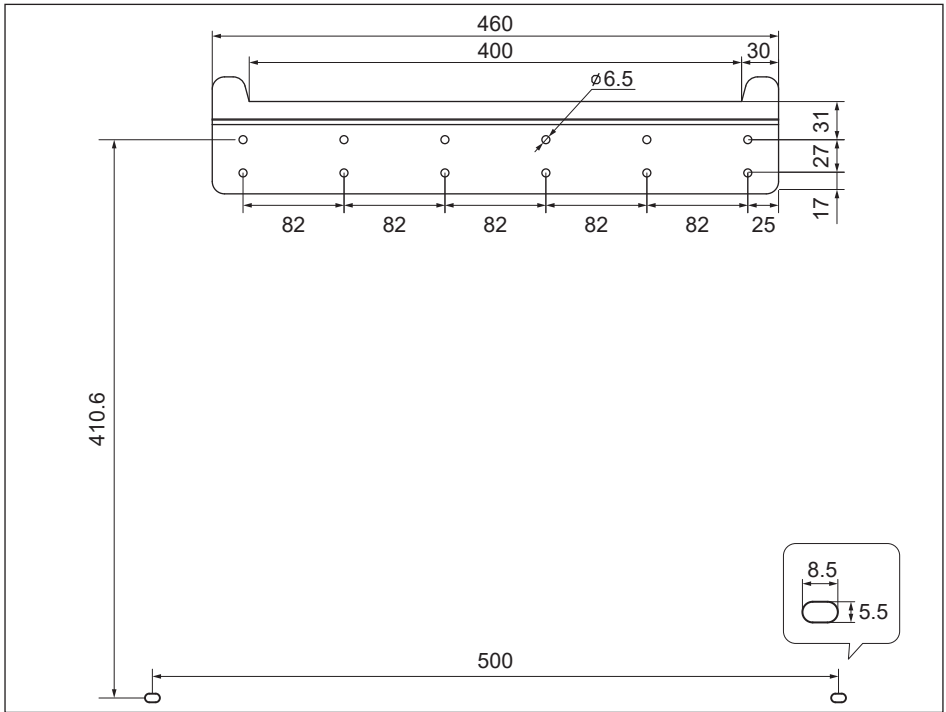
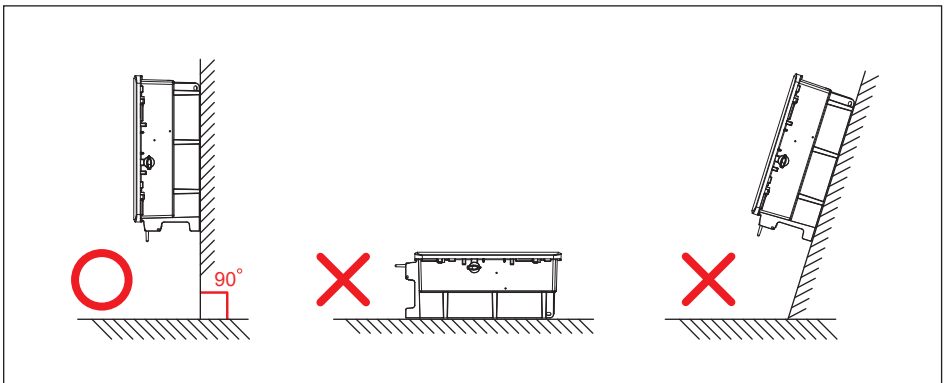

Figure 3-4: Mounting bracket dimensions
Figure 3-7: Permitted and prohibited mounting positions
Refer to **Figures 3-4** to **Figure 3-7**.
2. Orient the wall bracket (**Figure 3-4**) horizontally (perpendicular to the floor).